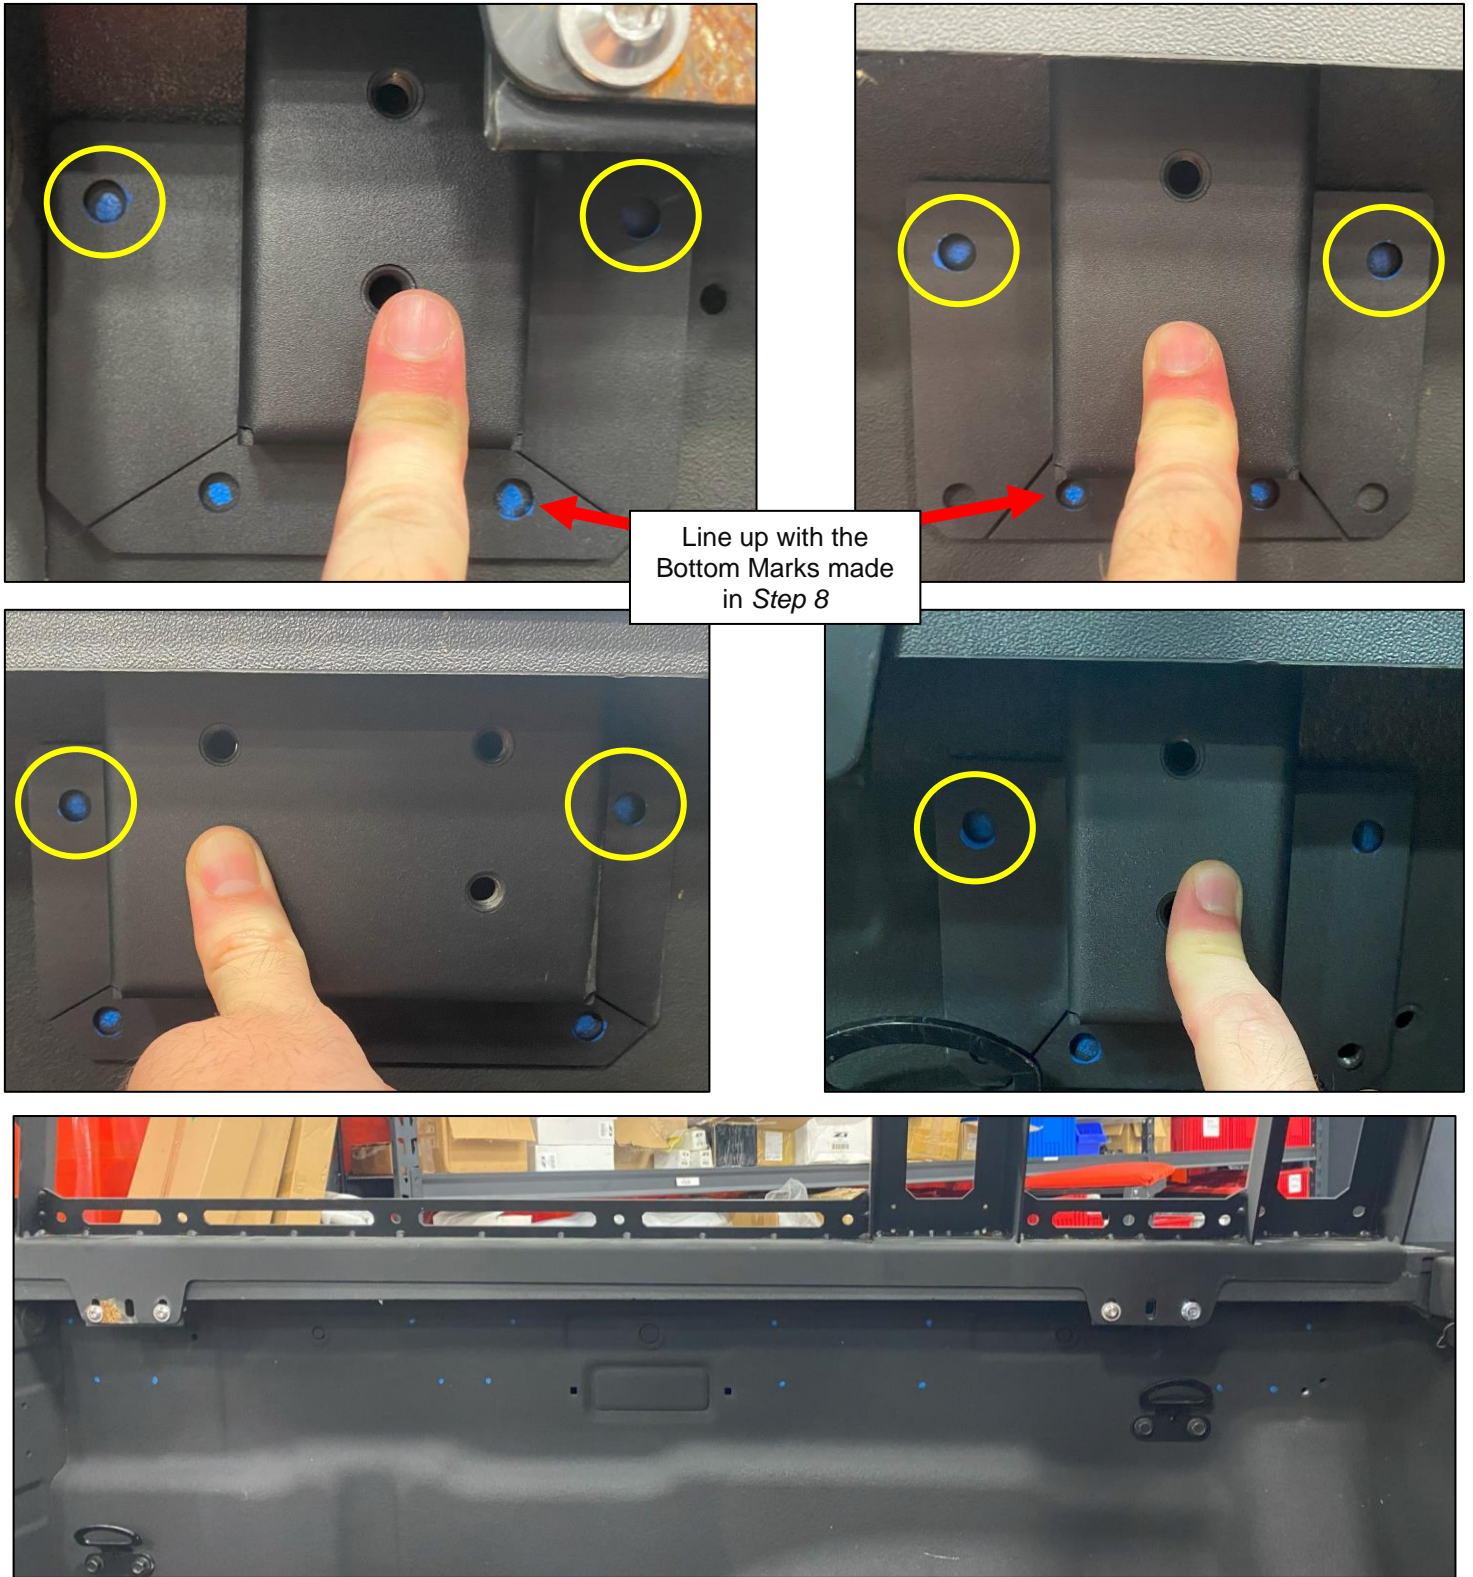

Figure 9
10. Remove the (10) ten Tapered Head Screws securing the Utility Track to the mounts. Keep the Mounts in order for the next step.
11. Line up the Mounts with the Marks made in *Step 8*. Once positioned and secure, mark the remaining holes in each mount. Line them up as best you can as this is where you will drill in the upcoming steps. *Figure 9*.